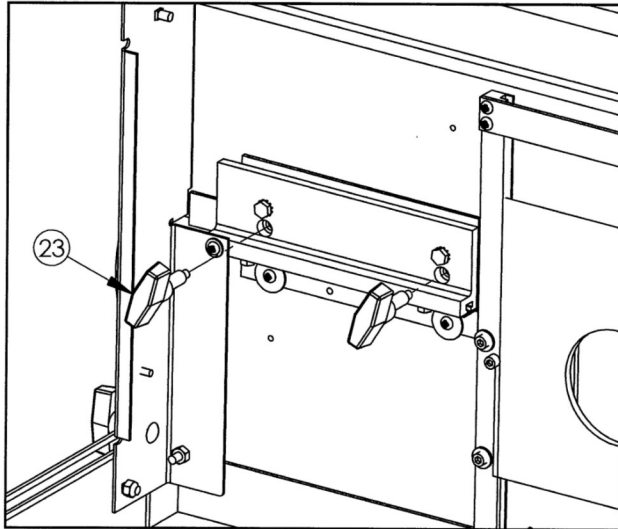
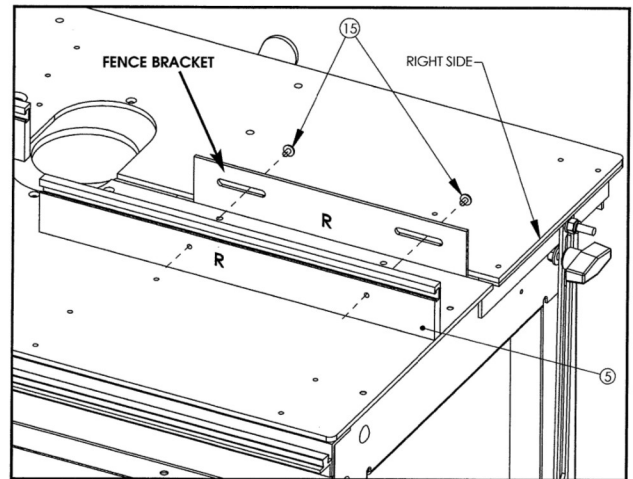

Figure 13. T-handle knobs
Figure 14. Fences
- Align the holes in the fence brackets with the holes on the table top. Secure the fence brackets to the top by inserting (4) T-handle knobs upward from the bottom of the table (Figure 13). Tighten the T-handle knobs while pushing the fence brackets forward towards the back ledge of the main table.
- Locate the (2) fences. The right hand fence is stamped with an R and the left is stamped with an L.
- Attach the fences using (4) #10-32 x 1/4" Phillips head screws to the front of the table fence brackets installed in step 5. Align the outside ends of the fences with the edge of the table and tighten screws (Figure 14).